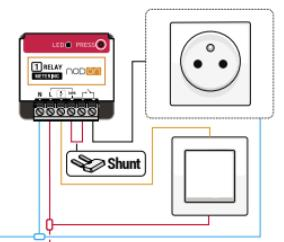

Figure 1
- Wire the Zigbee Multifunction Relay Switch with metering, following the diagram figure 1.